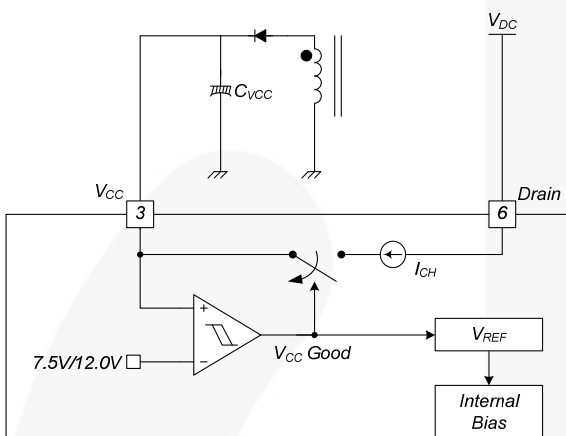

Figure 17. Startup Block
1. Startup: At startup, an internal high-voltage current source supplies the internal bias and charges the external capacitor (C_{VCC}) connected to the V_{CC} pin, as illustrated in Figure 17. When V_{CC} reaches 12V, the FSL126MRT begins switching and the internal high-voltage current source is disabled. Normal switching operation continues and the power is supplied from the auxiliary transformer winding unless V_{CC} goes below the stop voltage of 7.5V.